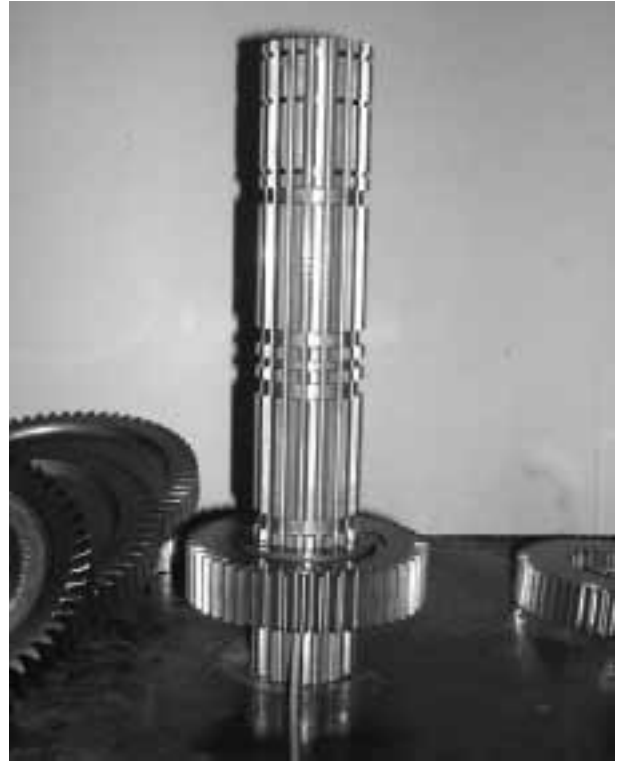

Figure 55 – Fitting OD Gear
- c. Place the overdrive gear onto the shaft, clutching teeth down followed by the spacer washer (refer to Figure 55).